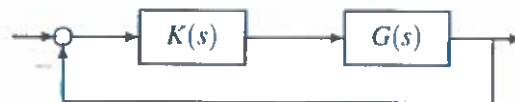

Figure 1.2
- b) In Figure 1.2 below, $G(s) = 2/(s^2 - 1)$ and $K(s)$ is a compensator.